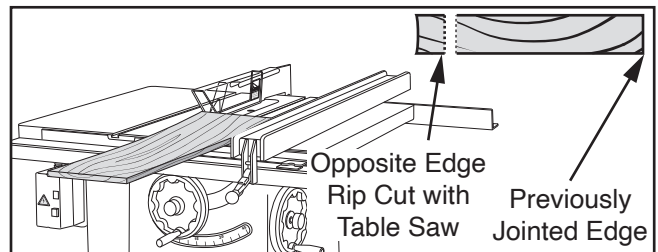

Figure 42. Rip cutting on table saw.
2. Place jointed edge of 2x4 against table saw fence and rip cut just enough off opposite side to square up two edges of 2x4, as shown in **Figure 42**.